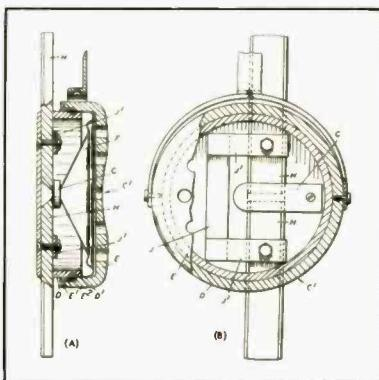

Fig. 1
The special headphones used for reception are shown in the two drawings of Fig. 1. (A) is a cutaway side view and (B) a cutaway front view. We reproduce here the actual drawings from the patent specification, contrary to our usual practice, simply because this is probably the clearest way to show what is largely a mechanical invention. When we refer to the part symbols, look at them in both drawings to give yourself a clear idea of what exists.
The pole pieces H are bridged by a permanent magnet. In (B) of Fig. 1 the permanent-magnet arrangement is shown as the magnet itself J and two soft-iron pole pieces J'; but a C-shaped magnet might be used instead.